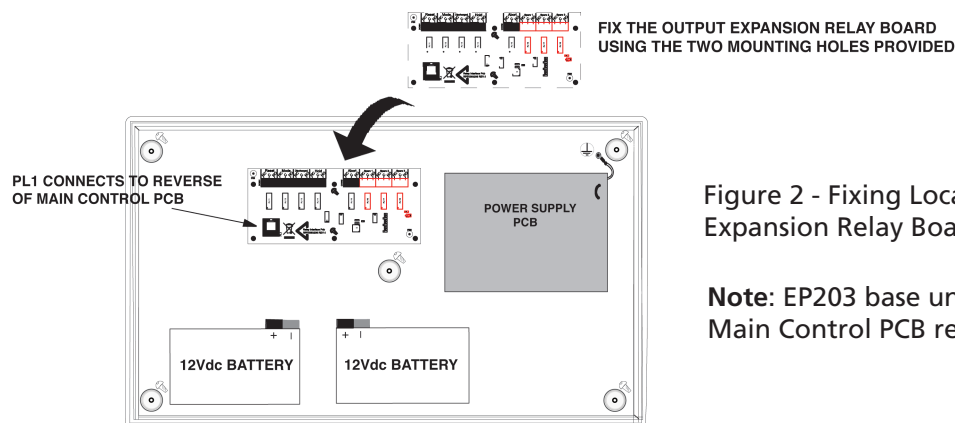

Figure 2 - Fixing Location of Output Expansion Relay Board
5. Position the Output Expansion Relay Board in the base unit (see figure 2). Slide the board over and downwards securing onto its mounting pillars, taking care not to damage any components.